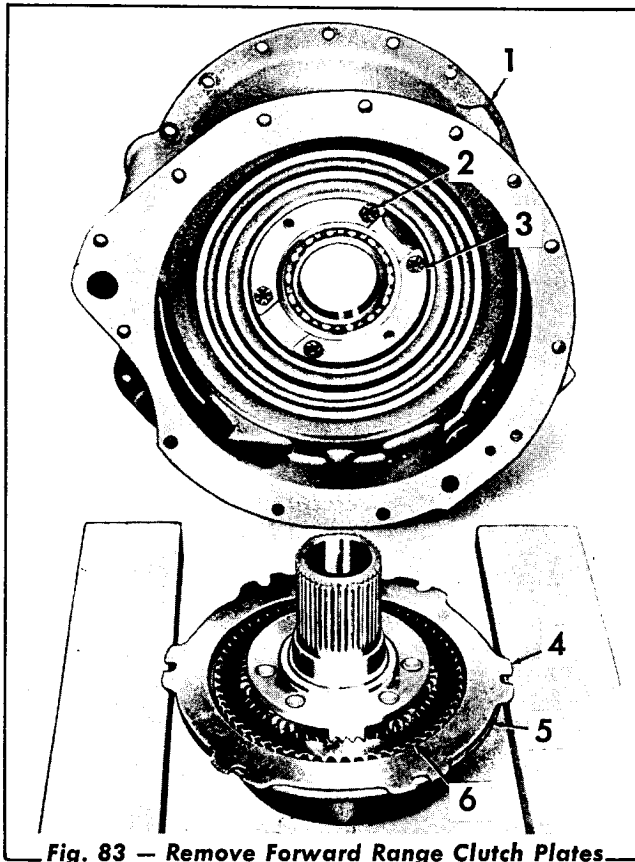

Fig. 83 — Remove Forward Range Clutch Plates
21. Position the transmission housing (Fig. 83) on its side and remove the self-locking cap-screws and the two bearing retainers. Remove one external and one internal splined forward clutch plates. Remove the forward ring gear.